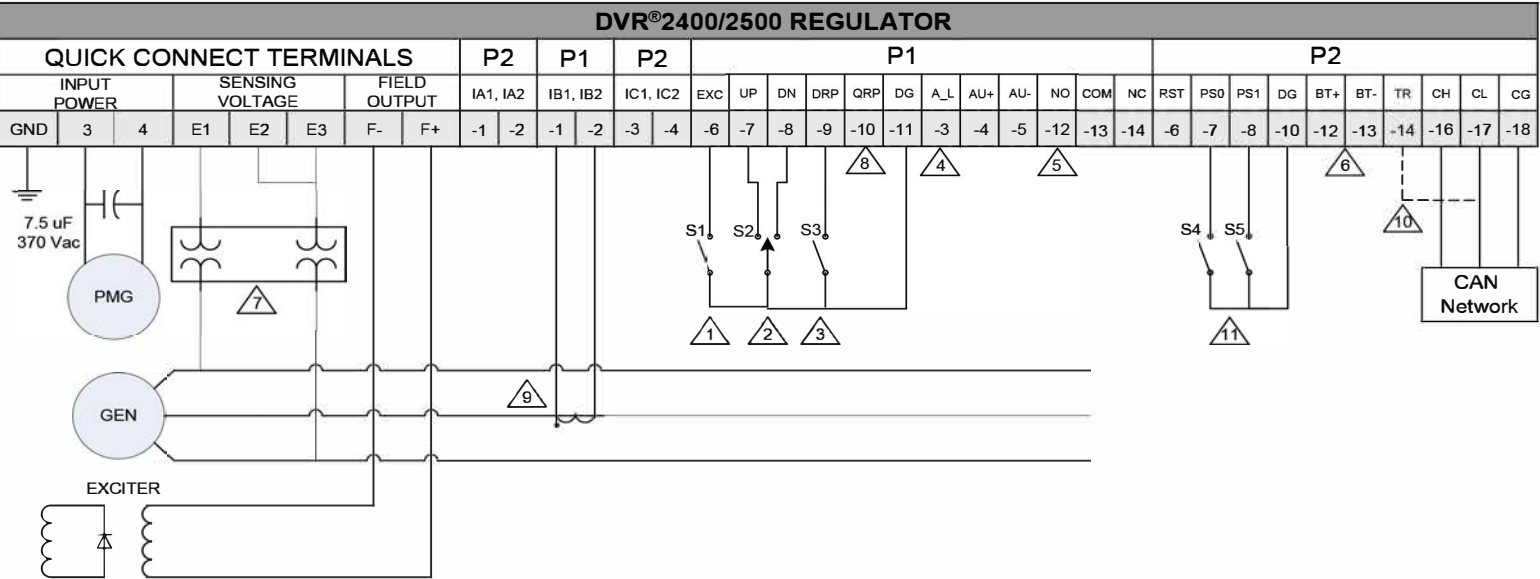

Figure 5-9. Typical Connections to a Single-Phase Generator
- Figure 5-9 shows an application where the regulator is connected for single-phase voltage sensing without current sensing.